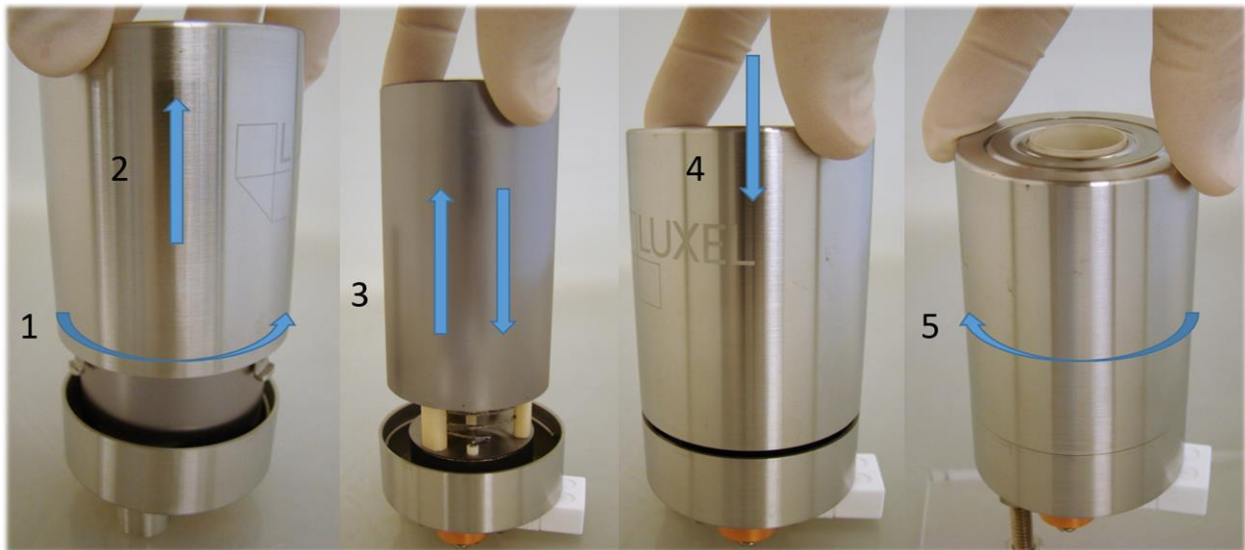

Figure 7: Radiation baffle installation / removal
To remove or replace the baffle, follow the steps shown in Figure 7: Remove the outer furnace cover by twisting counterclockwise (1) and lifting (2). Install the radiation baffle by **gently** sliding the baffle over the heater cage until it rests on the furnace base (3). To remove the baffle, gently pull it straight out of the furnace, do not use excessive force or the heater cage could be damaged. If the baffle gets stuck due to vapor buildup inside the furnace (improper crucible seal) try gently rotating to free it, taking care not to put excessive torque on the heater cage. Reinstall the furnace cover by aligning with the base and gently pressing down (4), then twist clockwise to engage the locking tines (5). When replacing the cover, check that the crucible is centered with the molybdenum vapor shield to effect a proper seal against vapors entering the furnace.